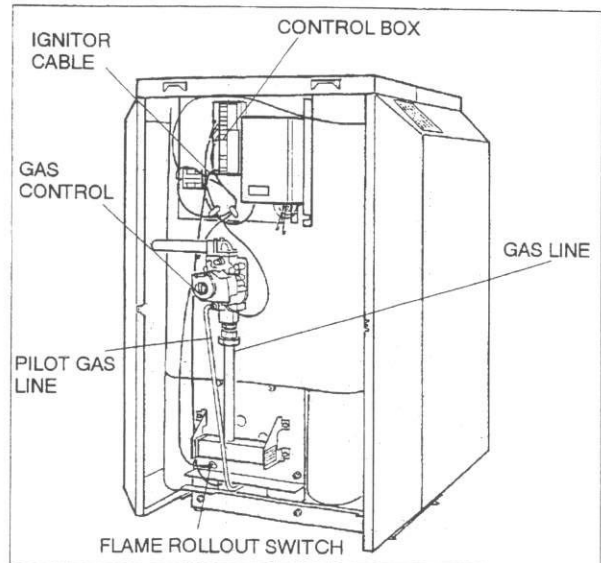

Fig.3
4. Disconnect the pilot line from the gas control, fig.3.
5. Disconnect the ignitor cable from the S 8600 Honeywell Control box, fig. 3
16. Remove the 4 nuts that secure the burner assembly from the boiler and remove the burner assembly from the boiler, fig.3 and fig.5.
27. Reconnect the pilot gas line to the gas valve, fig. 3.
28. Reconnect the ignitor cable to the S 8600 Honeywell Control box, fig. 3.